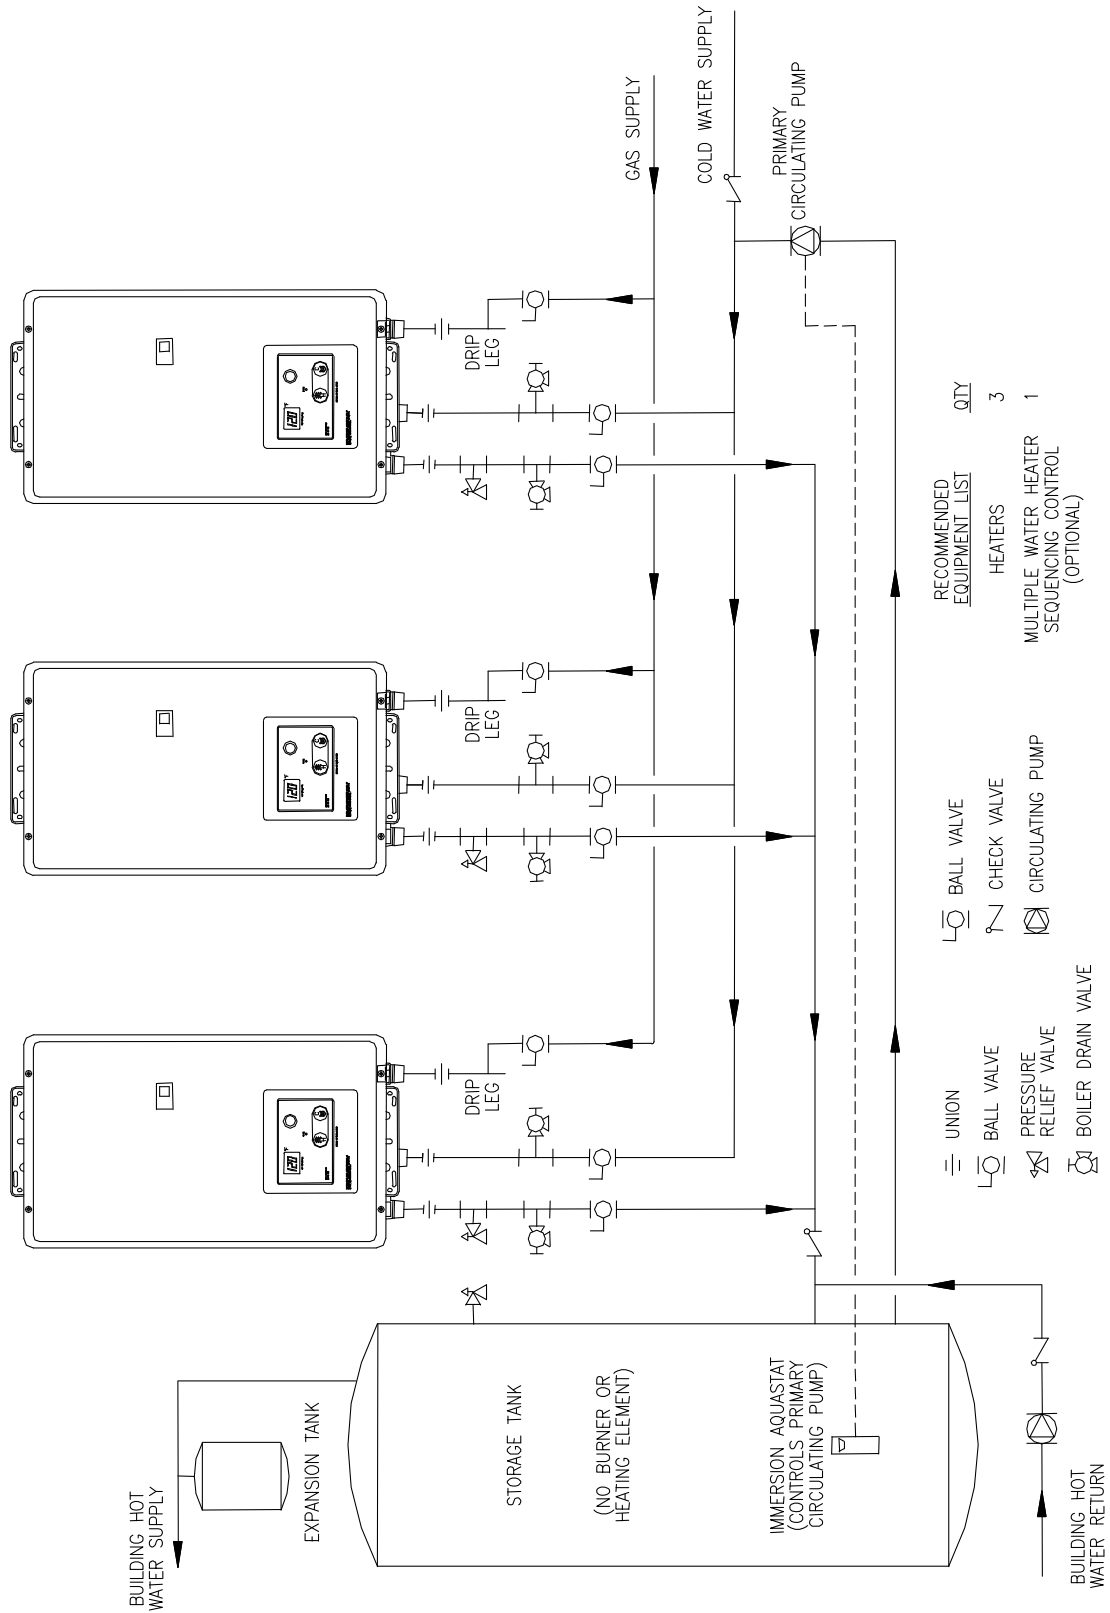

Figure 5
9. Commercial installations may require more than one water heater piped together in a manifold to supply enough capacity for high temperature and high water flow applications. Special controls are available from your Bradford White supplier for operating more than one water heater together. These controls stage the operation of the water heaters for the flow rates and control the amount of flow through each water heater. Order part# 239-44511-00 for the electronic manifold control for the first and second water heater and part# 239-44512-00 for the wiring harness for each additional water heater to be controlled. Instructions are included with these parts. Use the piping diagram in figure 5 in Section V as a guide.